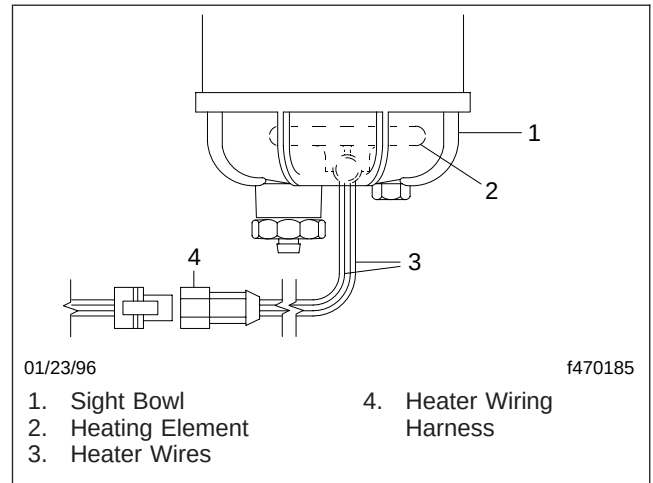

Fig. 2, In-Bowl Heater
6. Disconnect the heater wiring harness. See Fig. 2.